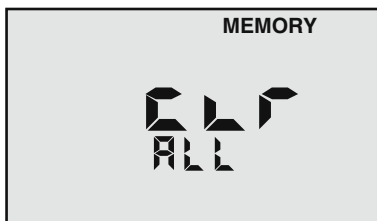

Figure 7
6. To clear **all** records: After pressing , scroll down. **"CLF ALL"** will be displayed (see Figure 7).